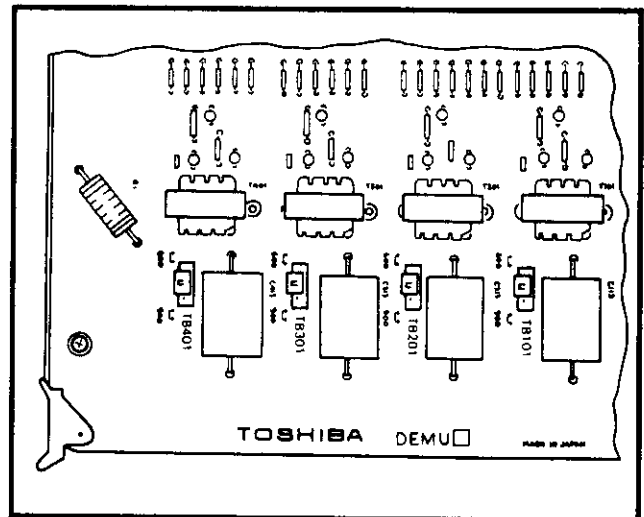

FIGURE 25—DEMU PCB STRAPPING LOCATION
05.77 Each DEMU (TIE) PCB circuit must be strapped for either 600-ohm or 900-ohm voice line impedance (Figure 25). The strapping location for each circuit is shown below: